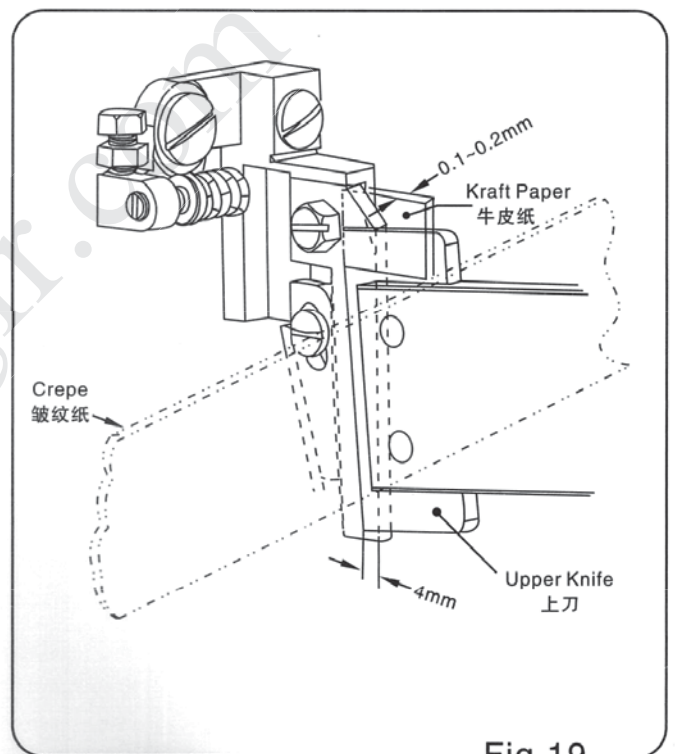

Fig.19
- Move the upper blade down to make it closed to the lower blade, fit clearance of the blade back is 0.1~0.2 MM (Fig.19), between upper blade and lower blade should be able to insert or pull out a kraft paper smoothly.
- After the adjustment by steps a), b), cut a crepe tape or thread for test. If the front end of the cutter cuts but the rear end does not, there is a gap on the rear side. In this case, loosen the nut b and loosen the screw ③ by 1/8 turn, and cut the thread again for test. If it still does not cut, loosen the screw ③ by another 1/8 turn and repeat this adjustment and test cut until the thread can be cut, and then retighten the nut b screw ③. If the rear end of cutter cuts but the front end does not cut, the adjustment by step a) is insufficient. Then make readjustment of the rear side so that the gap between both the blades become 0.1 to 0.2mm. Here, adjust the upper and lower blades so that they are in contact with each other on the front side. If the lower blade tends to turn away without cutting, increase the pressure of the spring by turning the screw ③ clockwise. (Fig.19)
- Adjust the overlapped depth of the upper and lower blades by changing the length of air cylinder rod end so that the distance between the upper face of the lower blade and the rear side of the upper blade becomes 4mm, as shown in (Fig.19).